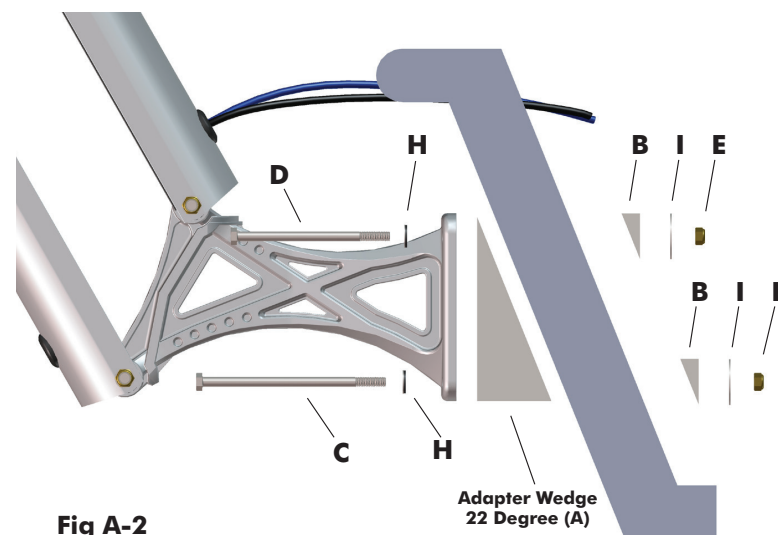

Fig A-2
5. Fasten the stern bracket to the transom using the listed hardware below **FIG. A-2**. The (4) Neo-bond washers (**H**), (4) 5/16" Fender washers (**I**) and (4) 5/16" tall Brass lock nuts (**E**) are provided with the Power-Pole hardware. The rubber backed neo-bond washers are to protect the powder coated surface of the stern bracket. Do Not Overtighten.